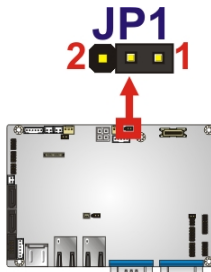

Figure 4-2: LVDS1 Voltage Selection Jumper Location
- Jumper Location:** See **Figure 4-2**